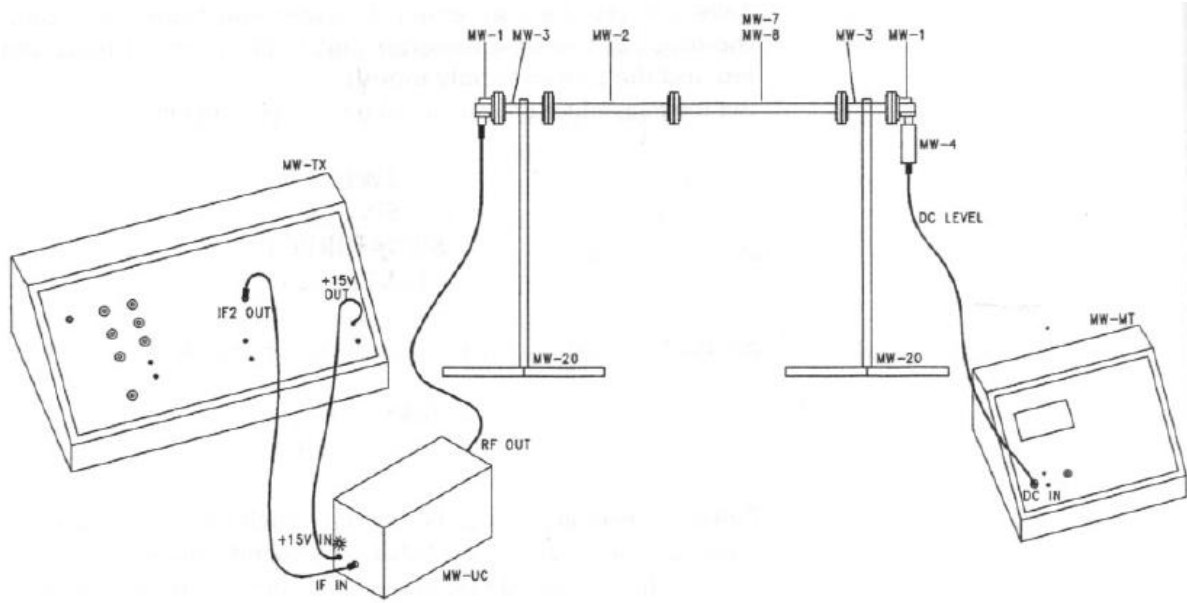

Figure 1
1. Carry out the wiring between the units as shown in Figure 1.